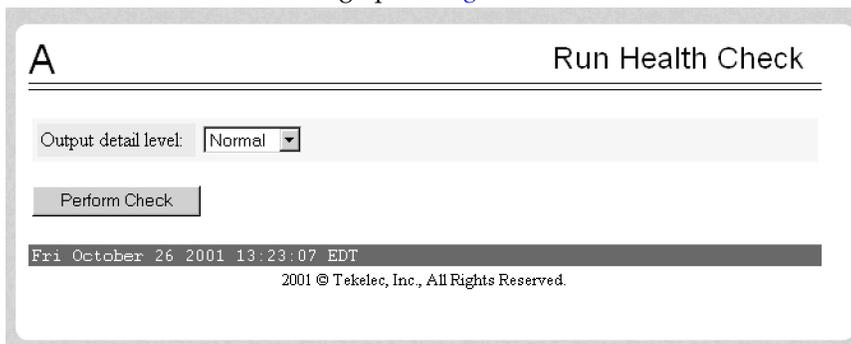

Figure 110: Run Health Check View
3. When the GUI shows you are logged into the desired ELAP, select **Platform ► Run Health Check**. The Run Health Check dialog opens, Figure 110: Run Health Check View.